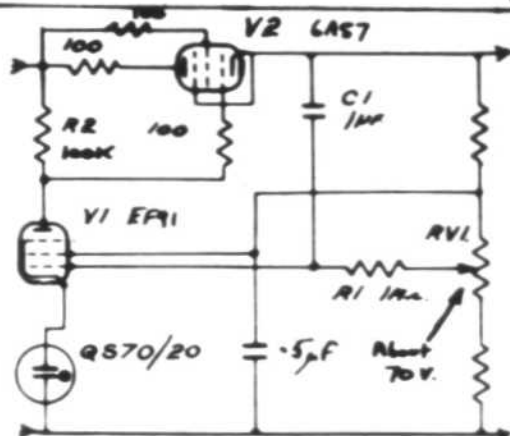

Figure 4: A typical general purpose stabiliser circuit.
Figure 4 shows a typical "all-round" stabiliser. Using an EF91 amplifier, and a 6AS7 control valve, Eqn (1) shows that the output impedance will be about 0.2 ohms, and the voltage stability will depend upon the stability of the neon. This in turn depends on the current flowing through it, which is limited by  $R_2$ ; one cannot therefore make the gain of the amplifier very large by further increasing  $R_2$  without sacrificing stability.  $R_1$  is a high value (1M) so that  $C_1$  can be reasonably small and yet still be satisfactory at low frequencies. (Compare the use of large grid leaks with small condensers in video amplifiers).  $R_{V1}$  acts as a fine control on the output voltage. 100 ohm stopper resistors are included in the control valve circuit to prevent spurious oscillations.